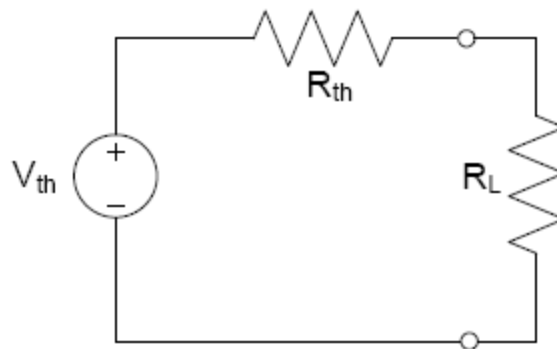

Figure 4
- Build the circuit shown in Figure 4 with the appropriate values of V_{TH} and R_{TH} you calculated in your prelab and measured in steps 6 and 8.